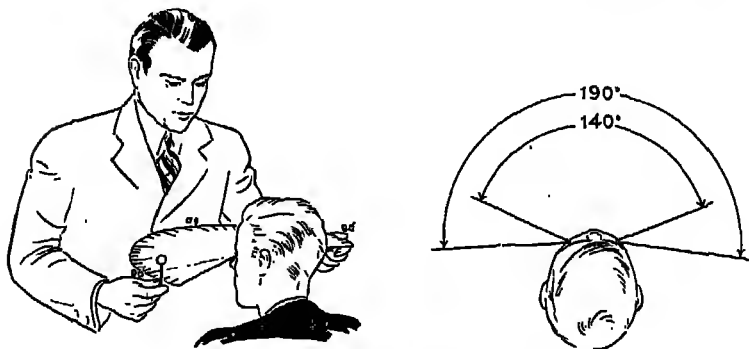

FIG. 30. Measuring the field of vision.
You can test your field of vision by making a simple cardboard protractor with a radius of 10 inches. (See Fig. 30.) When held up to the bridge of your nose, the 0 should be directly ahead and the 90° marks to the right and left. Now look at a fixed point some distance straight ahead. Have someone move a pencil slowly from back to front along the edge of the protractor until you can see the pencil out of the corner of your eye while still looking straight ahead. Note the reading in degrees. Take several trials and determine the average for each side. The sum of these two figures will indicate your total field of vision.
3. Make a cardboard protractor as illustrated in Fig. 30 and measure the field of vision of each member of the class.
6. Seeing with two eyes, or so-called binocular vision, is a great help in depth perception. To illustrate, ask a friend to hold a pencil with the point up, about 80 inches from your shoulder. With your arm outstretched, hold your hand a few inches above the pencil; then attempt to touch the point with your index finger: (1) with the right eye closed; (2) with the left eye closed; (3) with both eyes open.